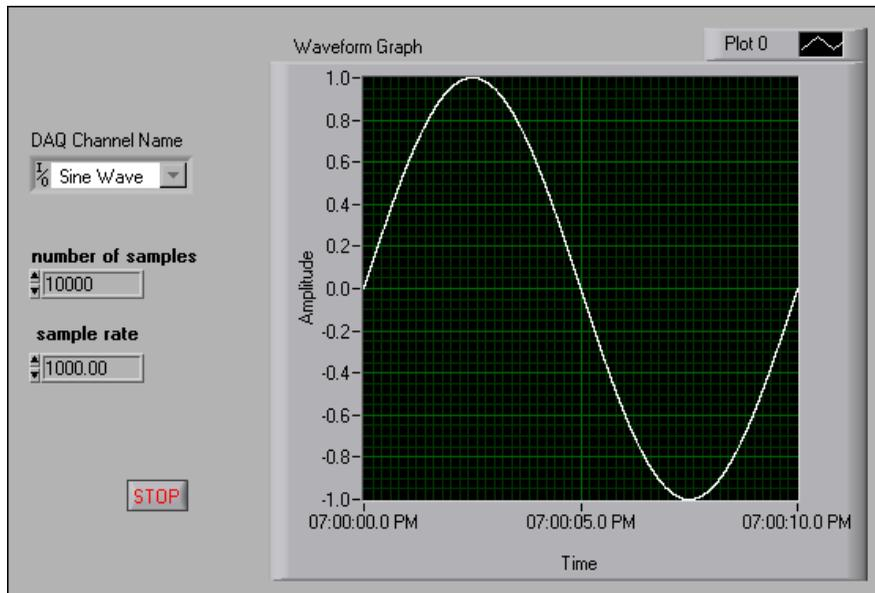

Figure 5-2. Waveform Graph
The VI in Figure 5-2 continuously acquires 10,000 scans from a DAQ device at a sample rate of 1,000 scans/second, which began at 7:00 p.m. The graph plots the waveform data (Y) on the graph. The start time (t_0) is 7:00:00 p.m. and is the first point on the x-axis. The delta t (dt) of the waveform is 1.00 ms (1,000 scans/second = 1 ms/scan), so the 10,000 scans are distributed over 10 seconds with the last data value plotted at 7:00:10 p.m.